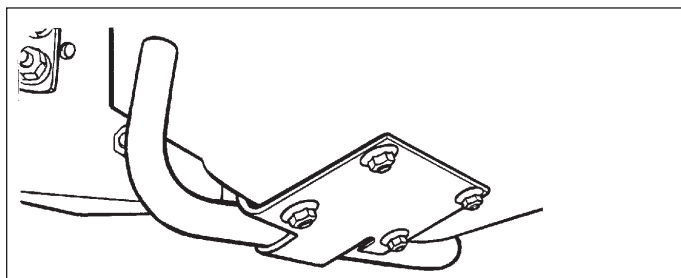

Figure 8. Engage Stone Guard Hook
2. Engage the stone guard hook at the bottom of the turbo as shown in Figure 8.